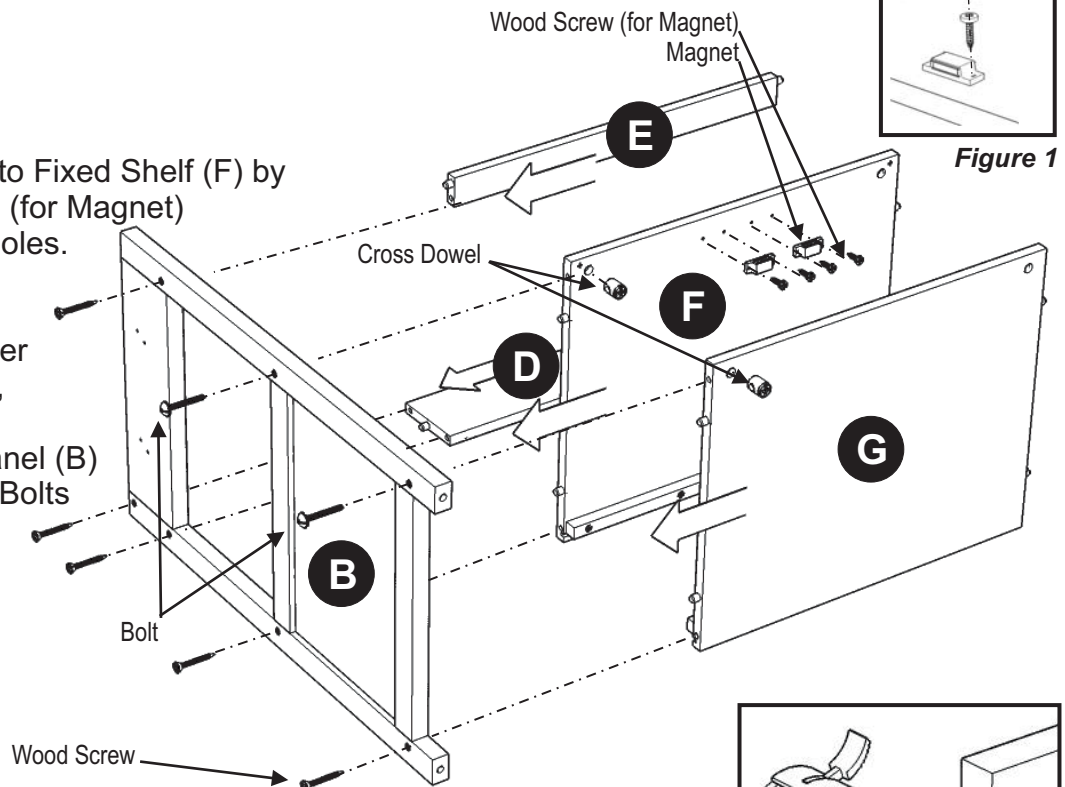

Figure 1
Attach 2X Magnets to Fixed Shelf (F) by using Wood Screws (for Magnet) into the pre-drilled holes. (See Figure 1)
Attach K2 to K3 and K4 using long wood screws (4X), tighten halfway. (See Figure 1)